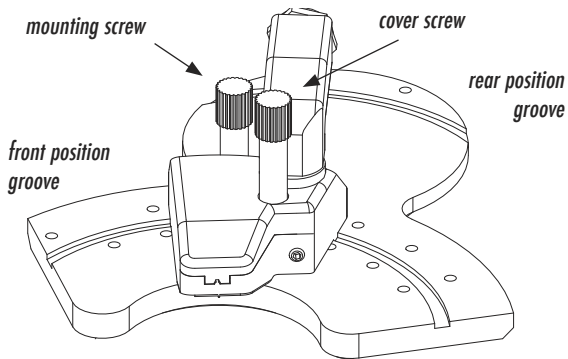

Figure 5.9: CTM in the forward position
Proper orientation of the CTM in the forward position is illustrated in Figure 5.9. The stage plate is configured like an optical breadboard to provide the user with the greatest versatility in tip placement. The best camera view will be provided when the tip is approximately perpendicular to the camera axis, at a 45° angle with respect to the inlet.
- 3) Set the CTM into the front positioning groove on the stage plate. Align the mounting slot on the CTM base with a corresponding tapped hole on the stage plate. Refer to Figure 5.9 as necessary.
- 4) Insert the stage mounting screw through the mounting slot on the CTM base and thread it into the threaded hole on the stage plate, as shown in Figure 5.9. Tighten the screw.